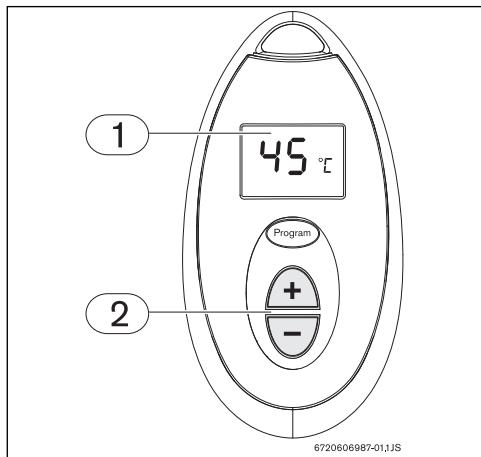

Fig. 13 Temperature adjustment
- ▶ Press the buttons or on the remote control (Fig. 13 , [pos. 2]) until the required temperature appears on the remote control display (Fig. 13 , [pos. 1]).